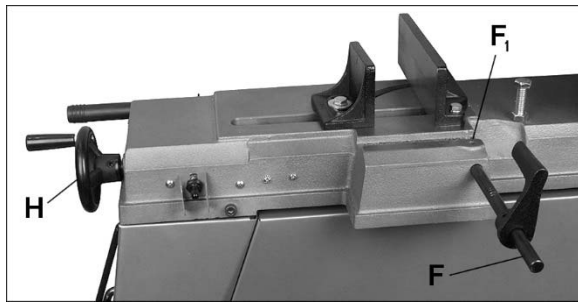

Figure 5-5
2. Install handwheel (H, Figure 5-5) onto vise lead screw shaft, aligning the set screw with the flat on the shaft. Tighten set screw.
3. Install workstop rod (F) into hole and tighten set screw (F₁). Slide work stop on rod and secure with set screw.